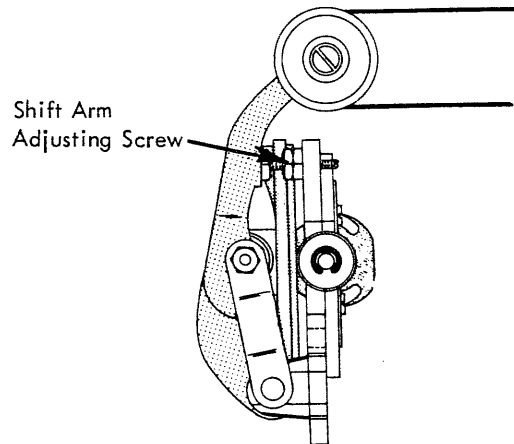

FIGURE 87. Shift Motion Adjustment
14. Shift Motion - The shift arm adjusting screw (Fig. 87) should be adjusted in or out to obtain 180° rotation of the typehead during a shift operation.